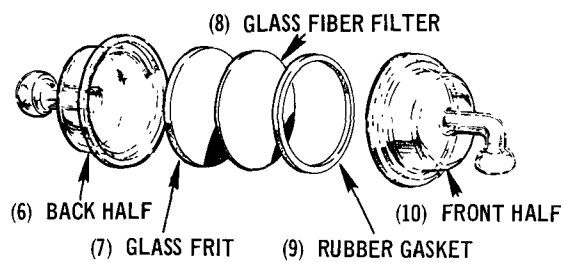

Figure 16. Glass filter holder assembly.
If the glass frit (7), shown in Figure 16, is dirty, place it in boiling, concentrated HCl for 0.5 hour. Rinse with distilled, deionized water, and then acetone; air dry. If the frit still does not appear clean, boil for 2 hours in concentrated  $\text{H}_2\text{SO}_4$  plus a few drops of sodium or potassium nitrate. Rinse well with distilled,
deionized water, and then acetone; air dry. This procedure should also be followed with new frits. The filter-holder assembly is shown in Figure 16.